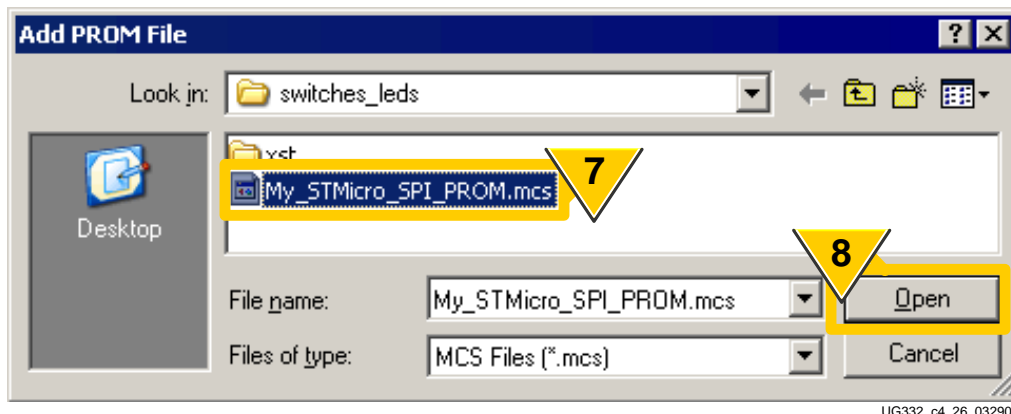

Figure 12-14: Select the SPI PROM Programming File
7. As shown in Figure 12-14, select the programming file for the attached SPI Flash PROM.